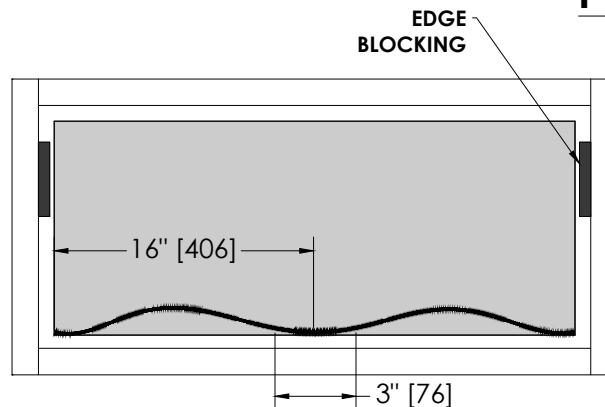

FIG. 4
- a. Cut airtight gasket 1/4" [6] longer per foot to avoid shrinkage at a later stage. **See FIG. 4**